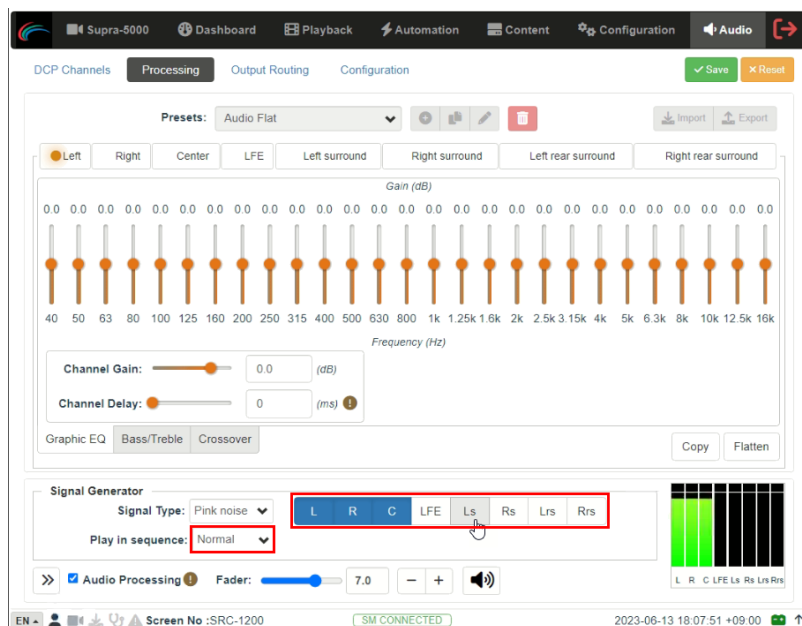

Figure 153: Play Test Signal through selected Channel(s)
- a) You can select the 'Normal' option from the **Play in sequence** drop-down and choose one or more channels through which the test signal should be played, using the toggle buttons provided under the **Signal Generator** section (as shown in **Figure 153**).